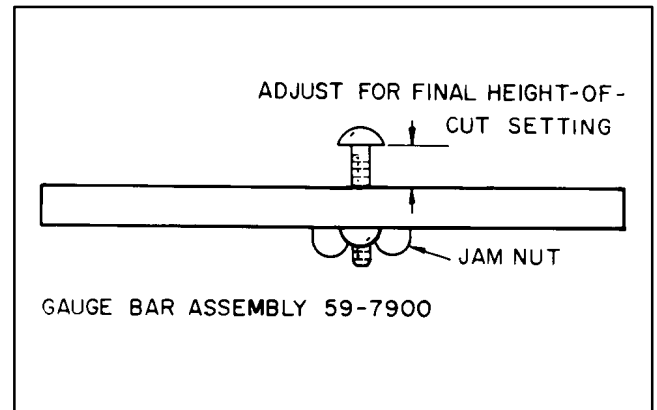
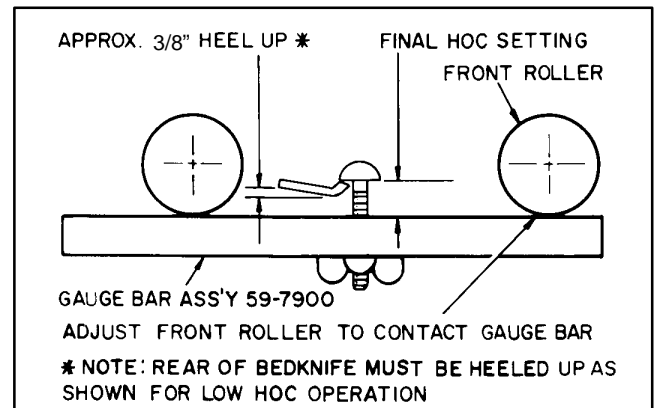

Figure 9
Figure 10
H. Loosen the gauge bar jam nut and adjust the screw to set dimension between underside of screw head and gauge bar for desired height-of-cut (Fig. 9). Tighten the jam nut to secure the adjustment. Hook screw head over cutting edge of bedknife and position bar against bottom of front roller (Fig. 10). Tighten front roller nuts.
I. Loosen front roller nuts and adjust both ends of the front roller until it contacts gauge bar at both ends. With the gauge bar held firmly against the bottom of the rollers adjust the front roller so the screw head just slips over the lip of the bedknife (Fig. 10). Tighten front roller nuts.